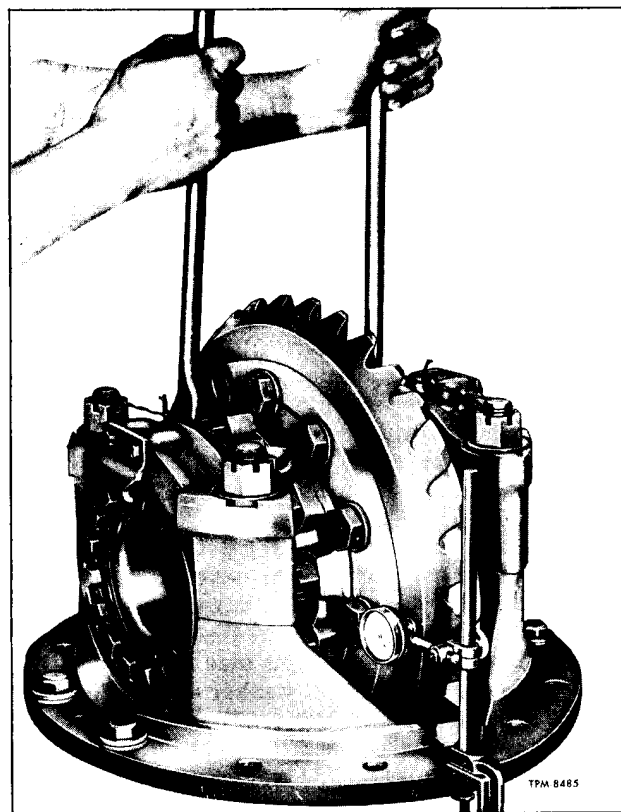

Figure 10—Differential Bearing Preload Check
1. Using dial indicator at back face of drive gear (1) as shown in figure 10, loosen bearing adjusting ring (8) on flanged side enough to notice end play on dial indicator.
3. Tighten both adjusting rings (8) one notch each from 0.000" end play position to impose correct preload on differential side bearings.